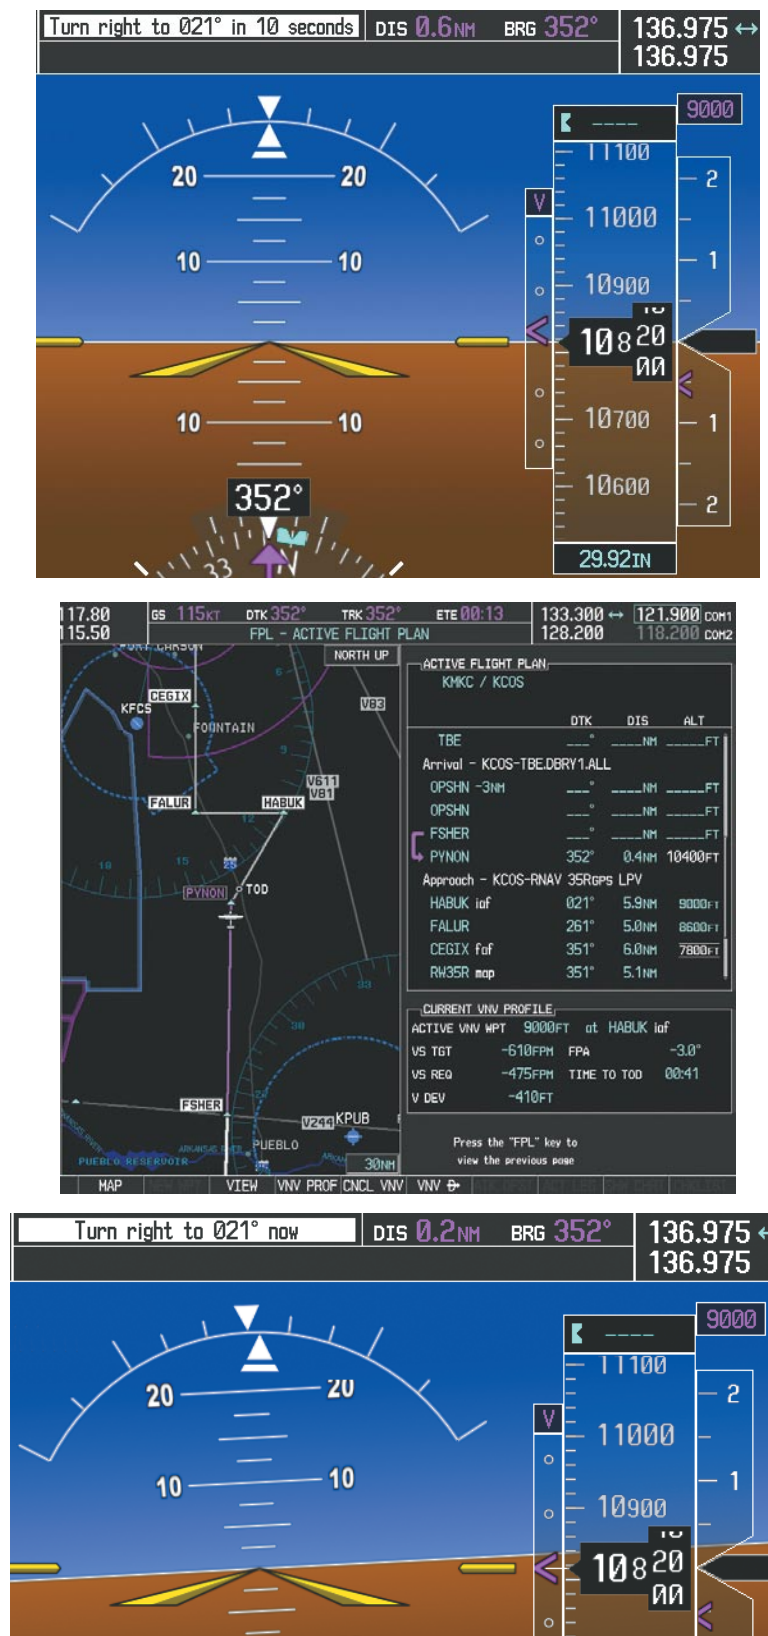

Figure 5-134 Approaching PYNON
- 20) The flight continues through the arrival procedure to PYNON (see Figure 5-134). At a point 31 nm from the destination airport, the phase of flight scaling for the CDI changes to Terminal Mode and is annunciated by displaying 'TERM' on the HSI.